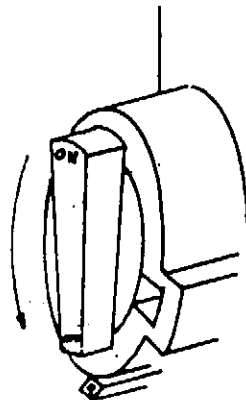

FIG. 4
- 1. Depress and turn handle of combination main and pilot valve to "Off" position. Fig. 4 on page 24.